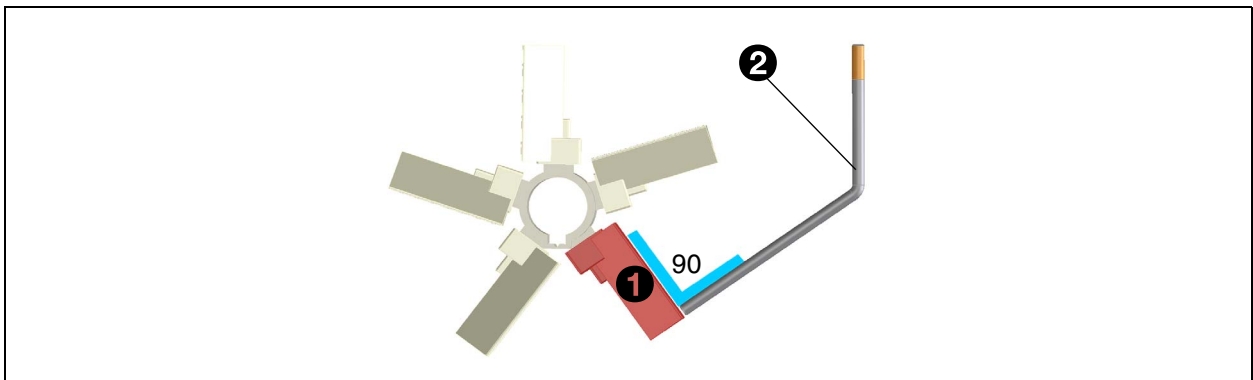

Fig. 16 - Scoop at right angles to turning pin
Turn the machine by hand until a scoop (1) of the turning unit is positioned at a right angle to the turning pin (2). See fig. 16.